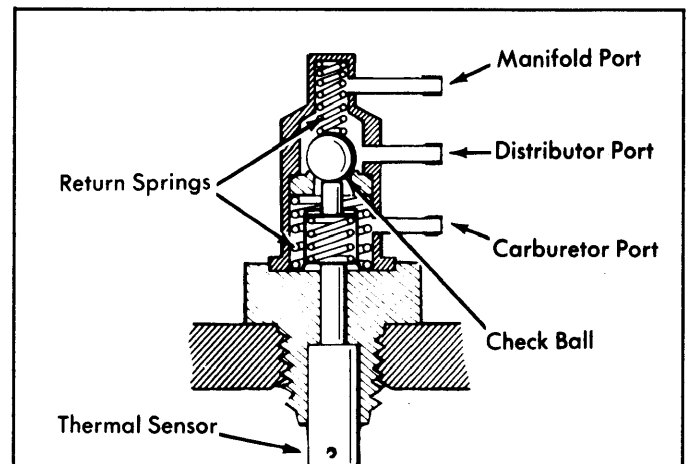

Fig. 2: Coolant Temperature Override CTO Switch
- 1) Ensure coolant temperature is below 160°F. Remove all vacuum hoses from CTO switch. Plug hoses that cause vacuum leak. Connect a vacuum hose from a manifold vacuum source to carburetor port of CTO. Connect vacuum gauge to manifold port of CTO. See Fig. 2.